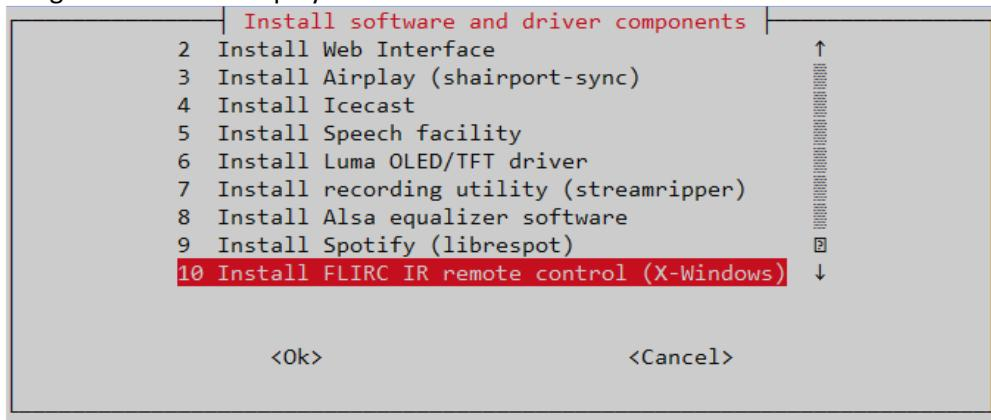

Figure 216 Install FLIRC IR remote control
- Select option **10 Install FLIRC IR remote control (X-Windows)** from the **radio-config** menu shown in *Figure 216 Install FLIRC IR remote control* on page 166. Note that you will need to use the down arrow key on your keyboard to see option 10.